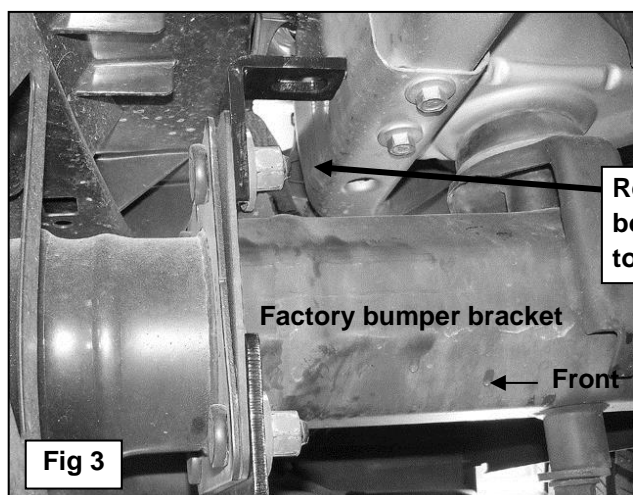

Fig 3
3. Next, remove the factory hex nut on the top-inside of the bumper bracket above the previously installed Frame Mounting Bracket. Select (1) "L" Top Support Bracket. Slide the Top Support Bracket onto the threaded stud and secure to the frame channel with the factory flange nut, **(Figure 3)**. **NOTE:** The "L" Top Support Bracket will point away from the front bumper. Line up the top of the Support Bracket with the top of the bumper. Snug but do not tighten hardware at this time. Repeat this Step for driver side Top Support Bracket installation.